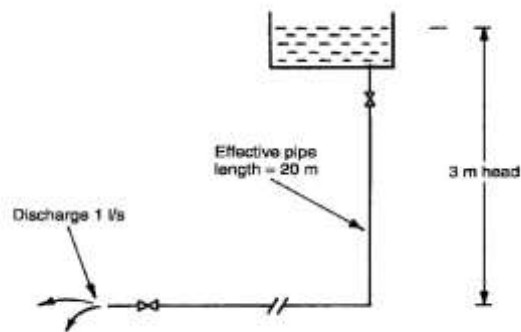

Figure 1
- (a) By using the Thomas Box Formula method, calculate the diameter of the pipe in Figure 1 below.